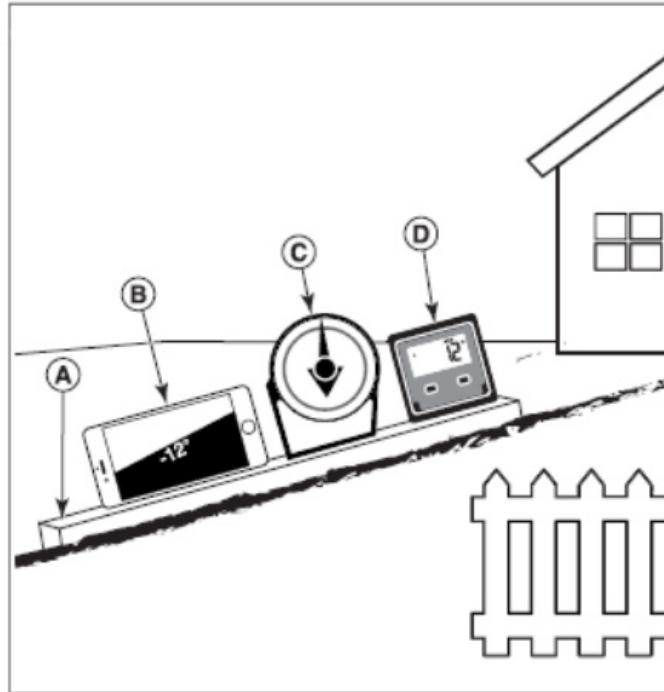

Figure 9
1. Use a straight edge at least two (2) feet long (A, Figure 9). A 2x4 or a straight piece of metal works well.
- a) Use your smartphone: Many smartphones (B, Figure 9) have an inclinometer (angle finder) located under the compass application (app). Or, search an app store for an Inclinometer app.
- b) Use angle finder tools: Angle finder tools (C & D, Figure 9) are available at local hardware stores or online (also called inclinometer, protractor, angle meter, or angle gauge). Dial type (C) or digital type (D) work, others may not. Follow user instructions with the angle finder tool.
3. Place the two (2) feet long straight edge along the steepest part of the lawn slope. Place the board up and down the slope.